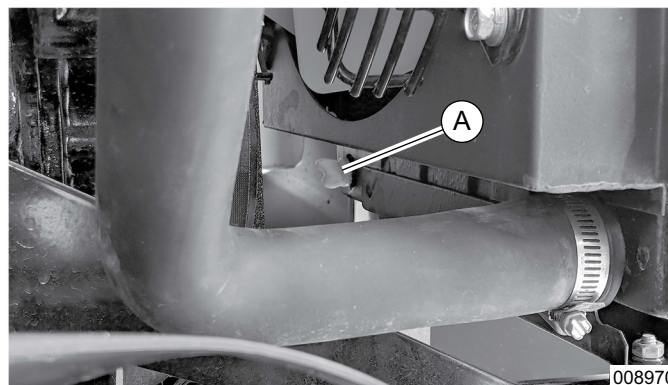

Figure 4-2. Coolant Drain Plug
2. See Figure 4-2. Verify coolant drain plug (A) is closed.